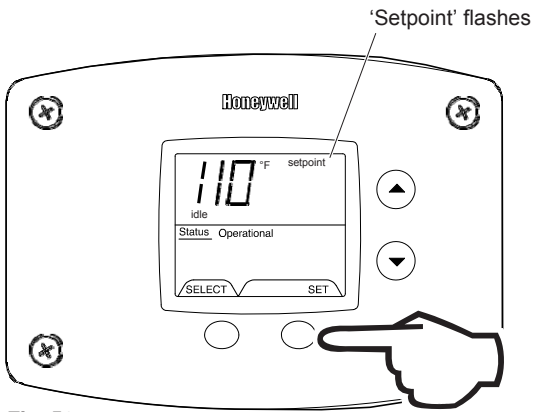

Fig. 52
- To lower the temperature setpoint, press the 'Temperature Down' button until the desired temperature is shown on the water heater display (Fig. 52).